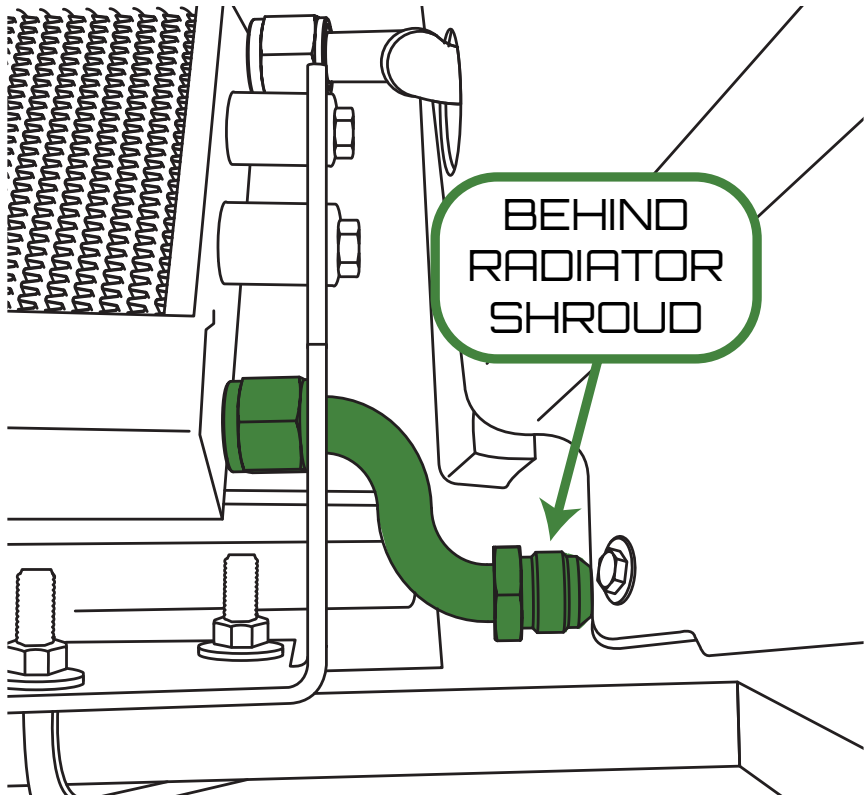

Figure 6 - Positioning the Lower Adapter Fitting
17. Position the male end of the fitting as shown in Figure 6.